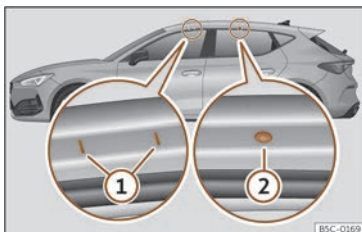

Fig. 193 Mounting points for the roof bars for the roof rack (Leon).
Valid for Leon: The front and rear attachment points ① and ② are only visible when the doors are open >>> **Fig. 193**.